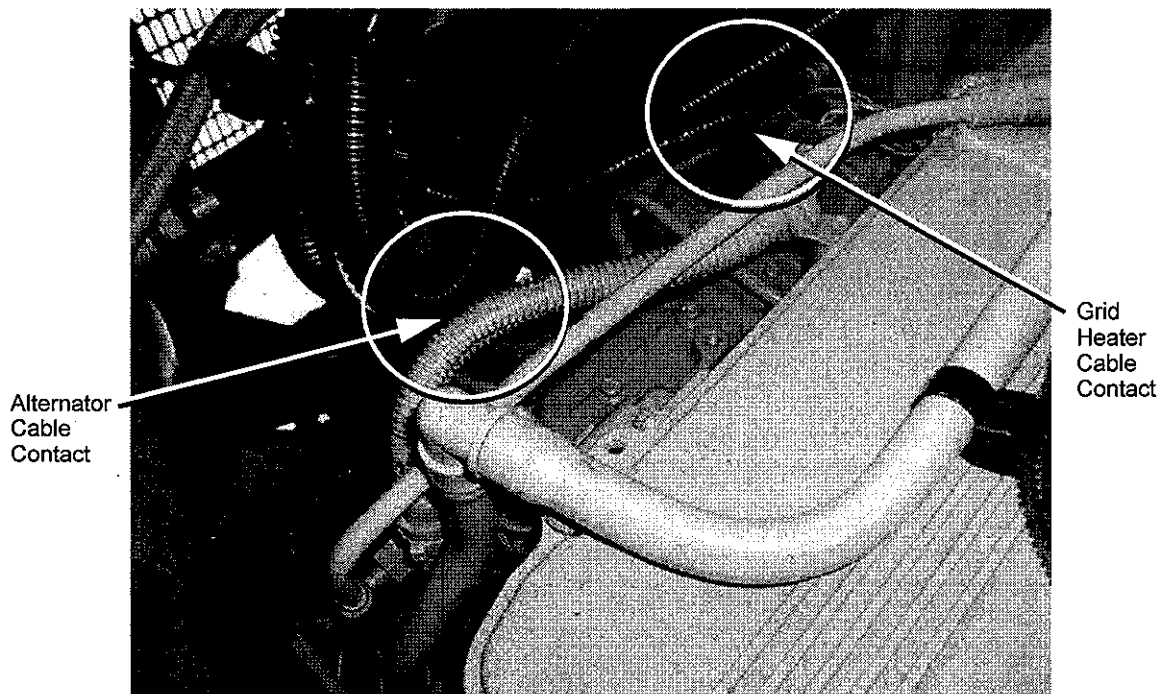

FIGURE 1-1 IMPROPERLY ROUTED CABLES IN CONTACT WITH FUEL LINES
3. Inspect the alternator cable and grid heater cable for proper routing in the rear engine compartment to avoid the possibility of rubbing/chaffing against the #3 and #4 fuel injector lines. (See Figure 1-1.)
- a. If the cables come in contact with the fuel injector lines as indicated in Figure 1-1 but no damage is found, reroute the cables following the procedure outlined in "Rerouting Improperly Routed Cables" on page 5.
If the alternator cable and grid heater cable are making contact with the #3 and #4 fuel injector lines as indicated in **Figure 1-1** but no damage is found: